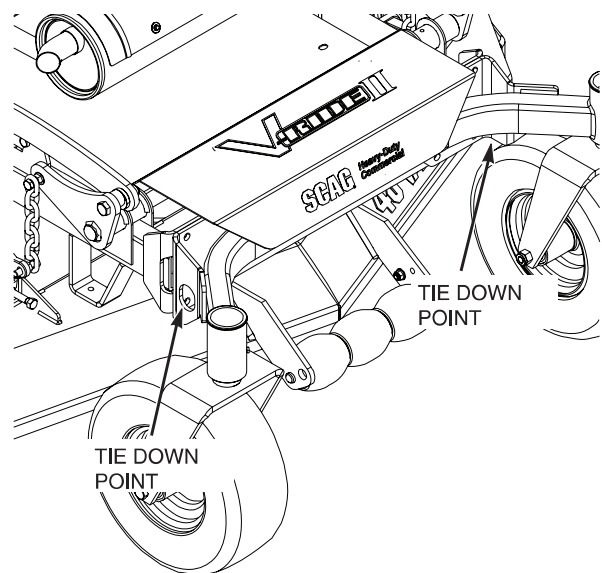

Figure 2-2. Front Tie Down Points
22. Tie the mower down securely using the tie down points located on the front and rear of the machine. See Figure 2-2 and 2-3. Secure using straps, chains, cable, or ropes. Both front and rear straps must be directed down and outward from machine.